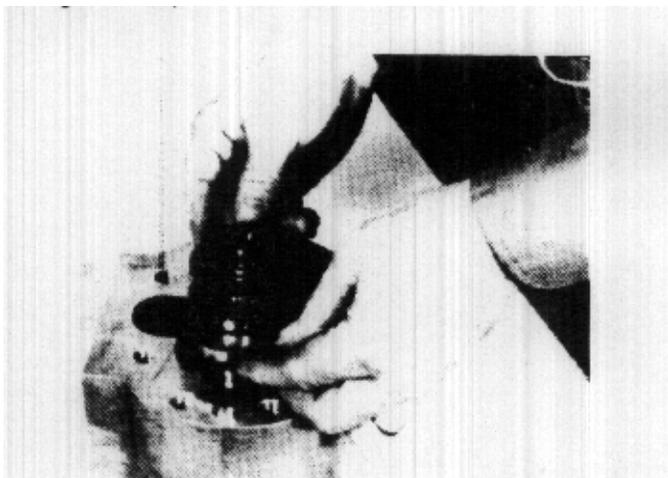

FIGURE 57
27. Install body dowels (20), one near the drive gear and the other near the idler gear.
29. Install pressure plate (9), bronze side down against the gear faces and with the trap slots facing the discharge side of the body. (Figure 57)